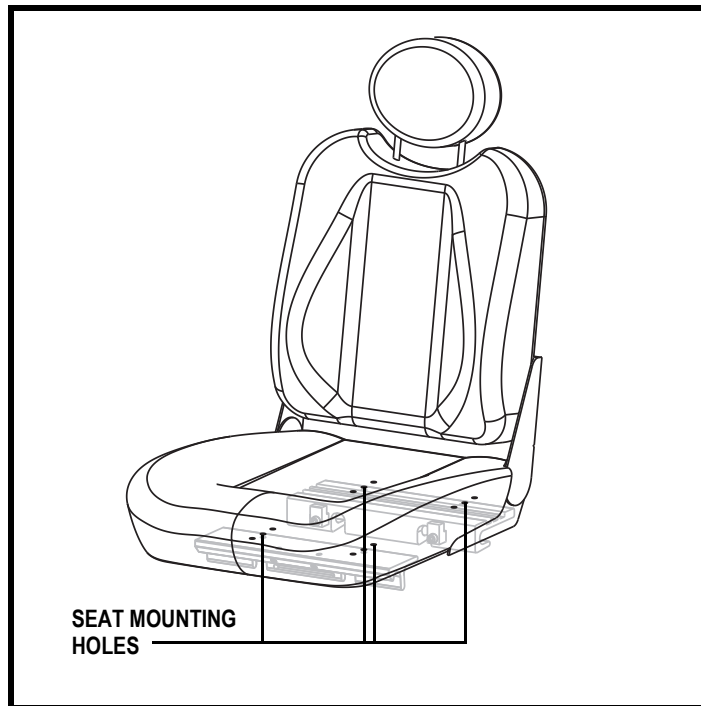

Figure 17. Seat Position Adjustment
7. Reposition the extrusions on a different set of mounting holes. You must move both extrusions the same number of holes either forward or rearward. **See figure 17.**